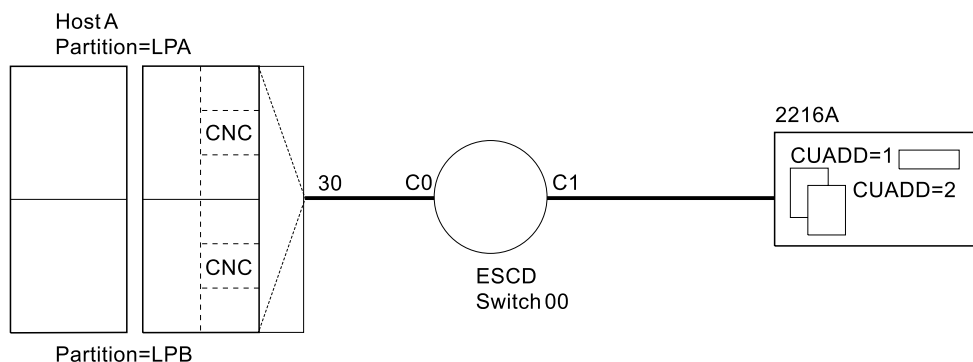

Figure 1-12. EMIF Host Configuration Example
Figure 1-12 shows an example of an ESCON configuration using the ESCON Multiple Image Facility (EMIF). The S/390 host is divided into two logical partitions (LP): LPA and LPB. Both LPA and LPB are connected on path 30 to 2216 A through switch 00.
The following example definitions match Figure 1-12: